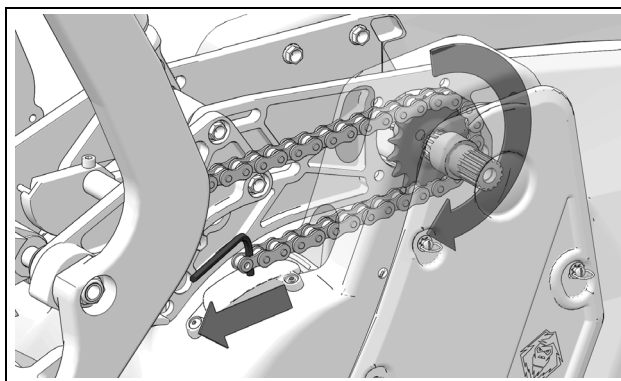

Figure 30
- Slowly rotate the YETI's track to advance chain links on the sprocket. Use a hook or magnet to extract the chain out of the chassis through the lower opening at the front. See Figure 30.